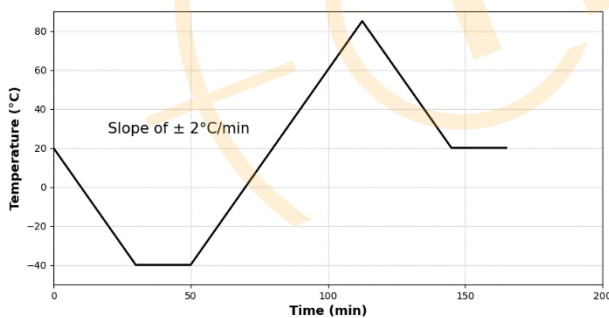

Figure 25: Recommended Temperature profile for calibration
2. Place the sensor on a rate table in a thermal chamber and implement temperature profile according to Figure25¹